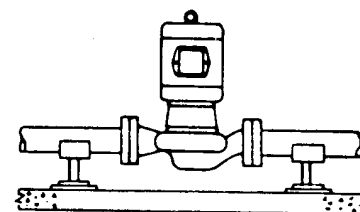
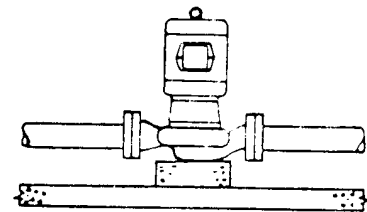

Fig. 3 Floor Saddle Support
Fig. 4 Additional Floor Support
- (c) Floor mounted saddle supports (Fig. 3) Where required, additional floor support may be obtained as shown in Fig. 4. Note: The piping must be installed in such a manner that the pump is not used as a pipe support. \*Flexible connectors are required only when pump is mounted on floor base.